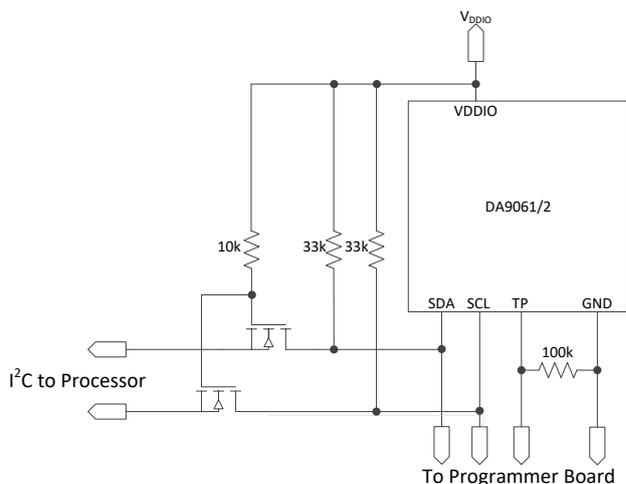

Figure 6: SCL and SDA Isolation in Case of Clamping by the Processor or Other I²C Slaves
- The system must be designed so that other unpowered devices connected to the I²C bus do not clamp the voltage to ground, for example through their V_{DD} ESD protection diodes. A solution is outlined in Figure 6.